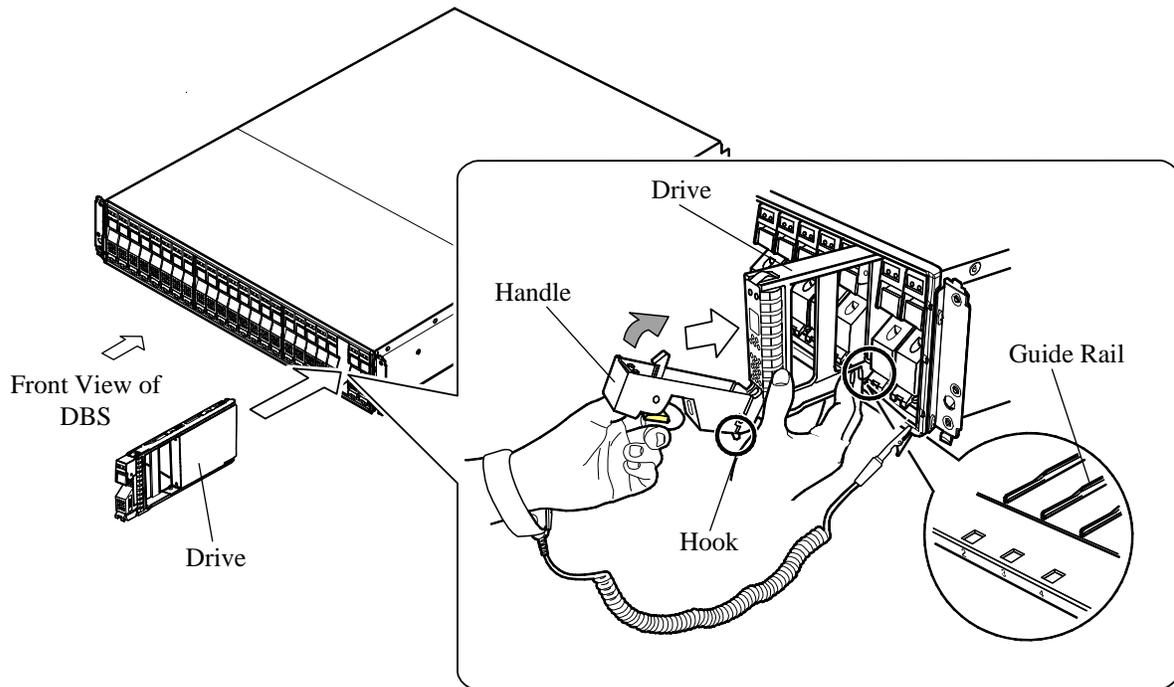

Fig. 3.41.1-11A Installation of Drive (for DBS)
- a. Make the handle of the DBPS completely fall down and forward. (See Fig. 3.41.1-5.)